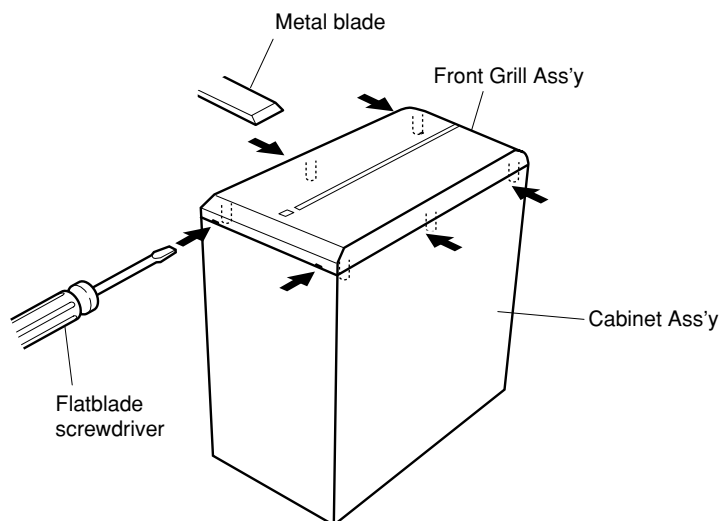

Fig.1
- a. Using the flatblade screwdriver inserted in the gap between the Front Grille Ass'y and the cabinet Ass'y (bottom side first), push up the Front Grille Ass'y (Fig.1).
- b. Remove the Front Grille Ass'y by lifting a metalblade up (Fig.1).